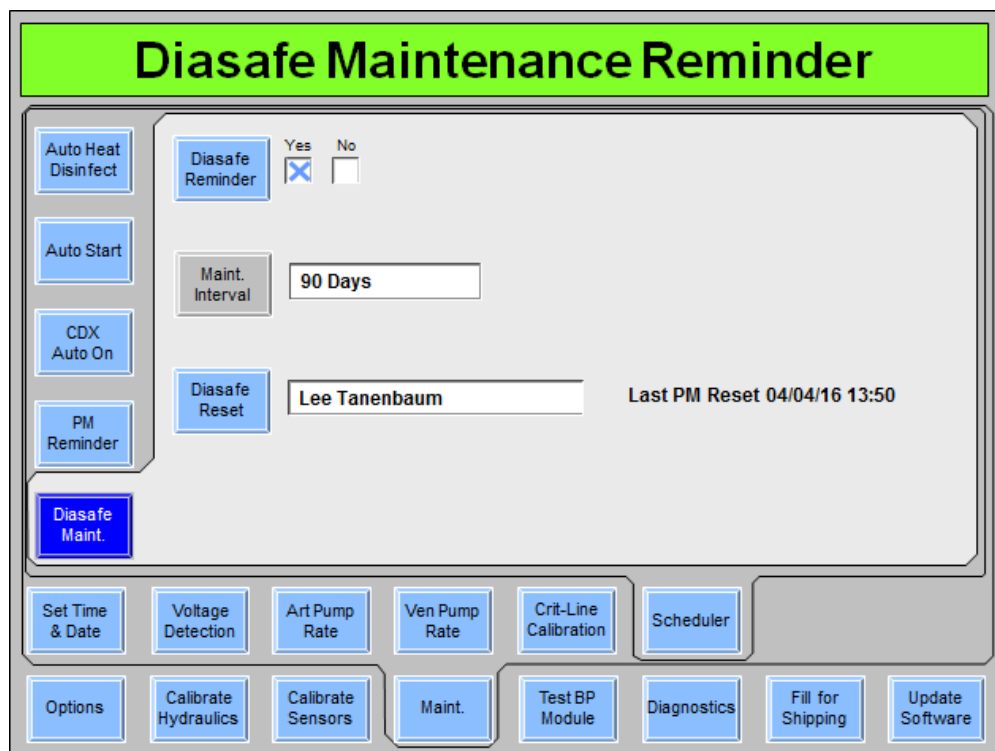

Figure 130 – Scheduler Diasafe Maint. Screen (showing functional software version 2.72 or later)
3. Select the **Diasafe Reset** button and, using the keyboard, enter the technician's name setting the PM reminder then press the **CONFIRM** key. This will reset the countdown clock from the last DIASAFE[®]*plus*_{US} filter replacement date and save the technician's name and date the 90 day timer was reset (see Figure 130). This overwrites the name and date of the technician who performed the previous PM reset.